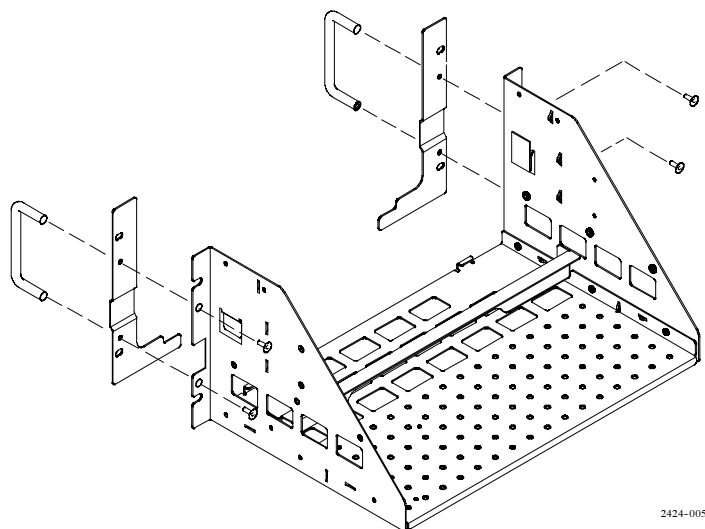

Figure 6: Installing the right and left faceplates
3. Place the right faceplate into position, and then install the right handle using two of the 8-32 x 0.5 inch flat head Pozidriv screws tightened to 16 in-lb. See Figure 6. Installing the handle secures the faceplate in place.